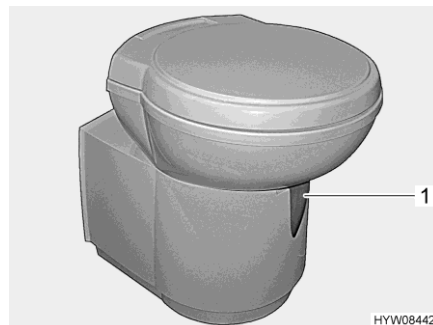

Fig. 166 Thetford toilet bowl (swivelling)
- Before flushing open the sliding trap of the Thetford toilet. To do this, push the slide lever (Fig. 166,1) in an anticlockwise direction.